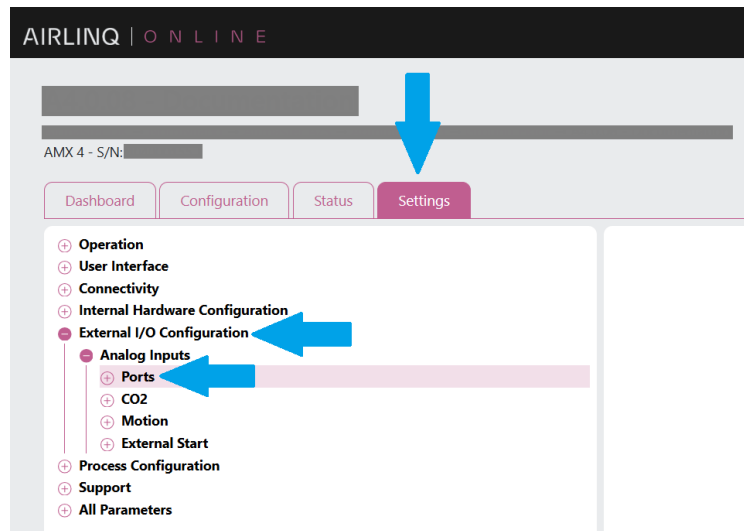

Figure 29: Ports menu
- Go to the "Settings" tab at the top, then click "External I/O Configuration" in the drop-down menu. Next, click on "Analog Inputs" and "Ports", see Figure 29 below: